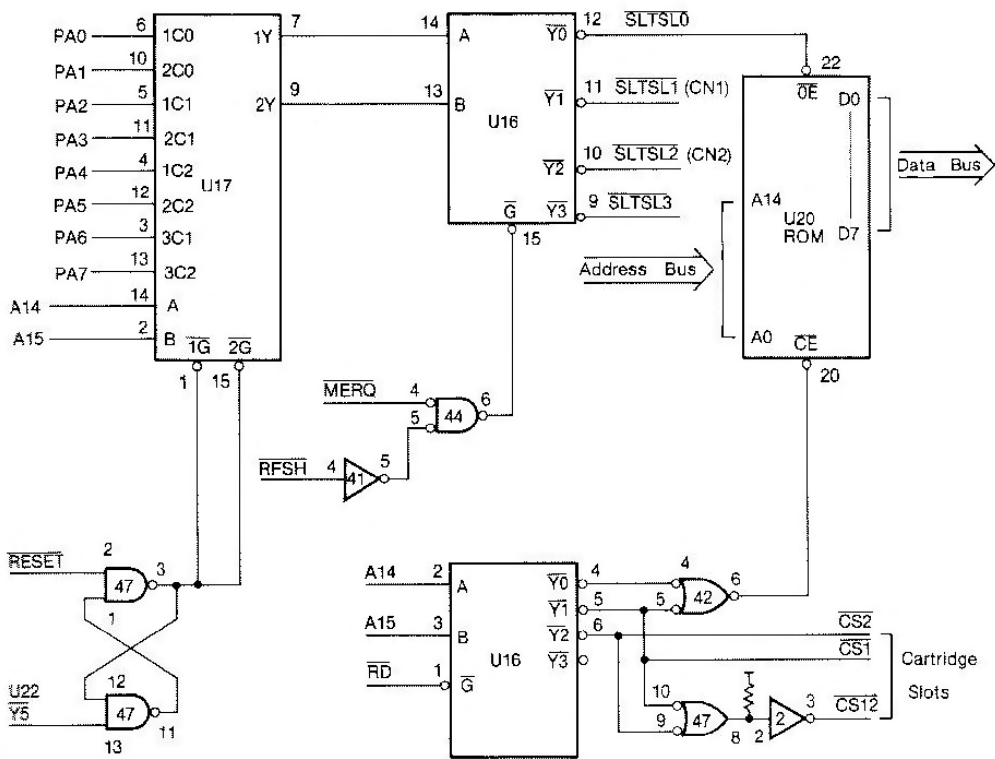

Fig. III-6
Fig. III-6 shows the unit's slot selection circuit. The data received from the PPI PA0-PA7 ports are divided into page unit slot select signals by U17 with the A14 and A15 address bus high-order 2 bits, these signals are decoded by U16 and slot select signals $\overline{SLTSL0}$, $\overline{SLTSL1}$, $\overline{SLTSL2}$ and $\overline{SLTSL3}$ are produced. The $\overline{SLTSL0}$ signal is used as the enable signal of only the ROM on the main PCB. The unit's RAM is accommodated in logical terms in slot 3 and so the $\overline{SLTSL3}$ signal is used as its enable signal. The signals which have NAND-ed the \overline{MERQ} and \overline{RFSH} signals are connected so that the slot select signals are not output to the U16 \overline{G} pin (15) when the D-RAM is refreshed.
Apart from the slot select signals, it is stipulated that the ROM select signals listed below be output to the cartridge slots. Therefore, these signals are produced at U2, U47 and U16 using the address bus high-order 2 bits and \overline{RD} signal. (Refer to Fig. III-6.)